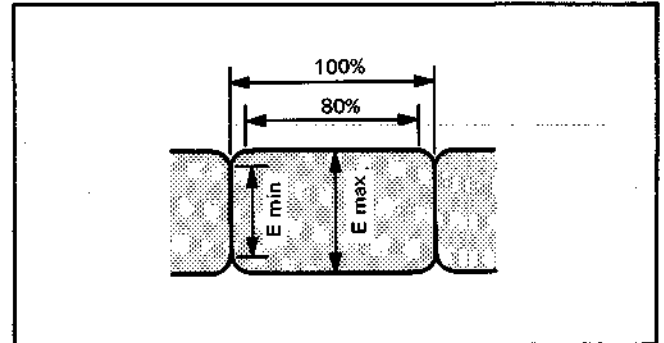

Fig. 3-32
- 3) Confirm that the RF output waveform satisfies the conditions in Fig. 3-32. If not, readjust tape path.